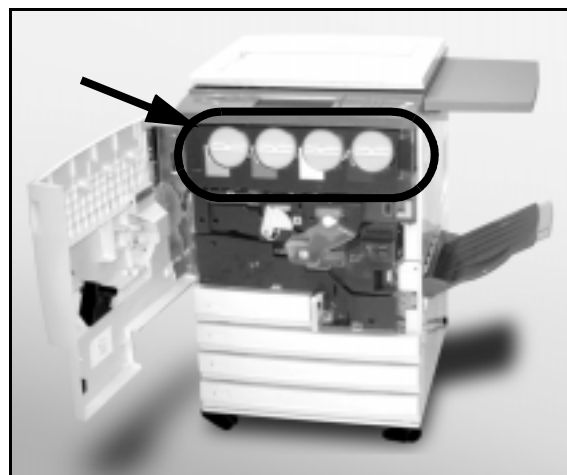

Figure 8: Locating the Dry Ink Cartridge
- 1 Open the Front Door of the copier/printer and locate the Dry Ink Cartridges, as illustrated in Figure 8. From left to right the Dry Ink Cartridge colours are Cyan, Magenta, Yellow, and Black.